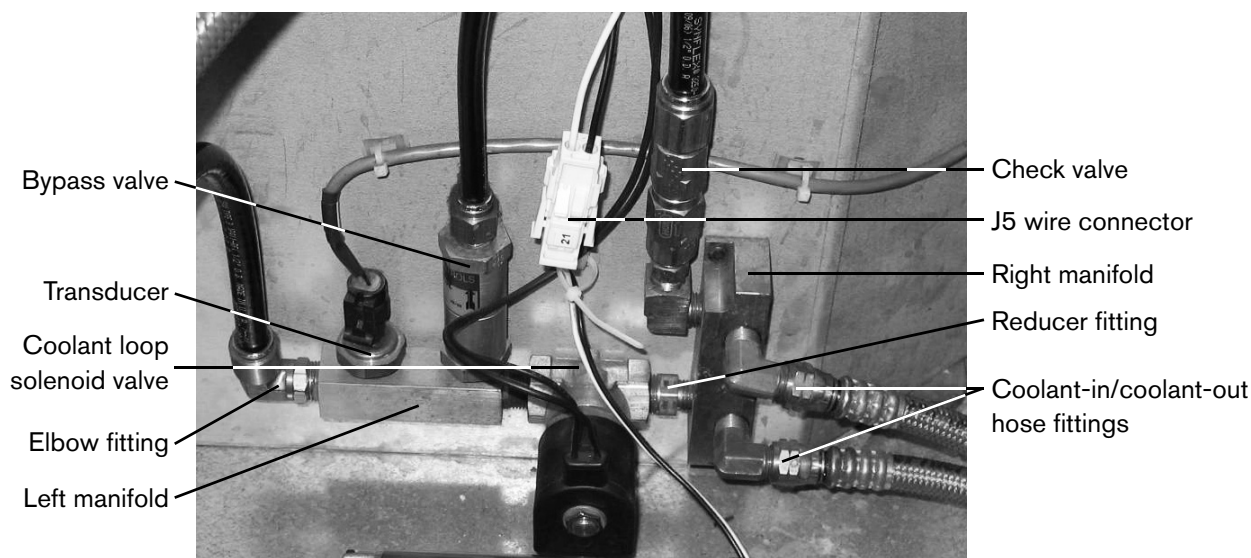

Figure 4: Coolant loop solenoid valve correctly positioned within the HPR260 power supply
- Orient the valve correctly; the green arrow painted on the valve should point towards the rear wall of the power supply. See Figure 4 below for reference.